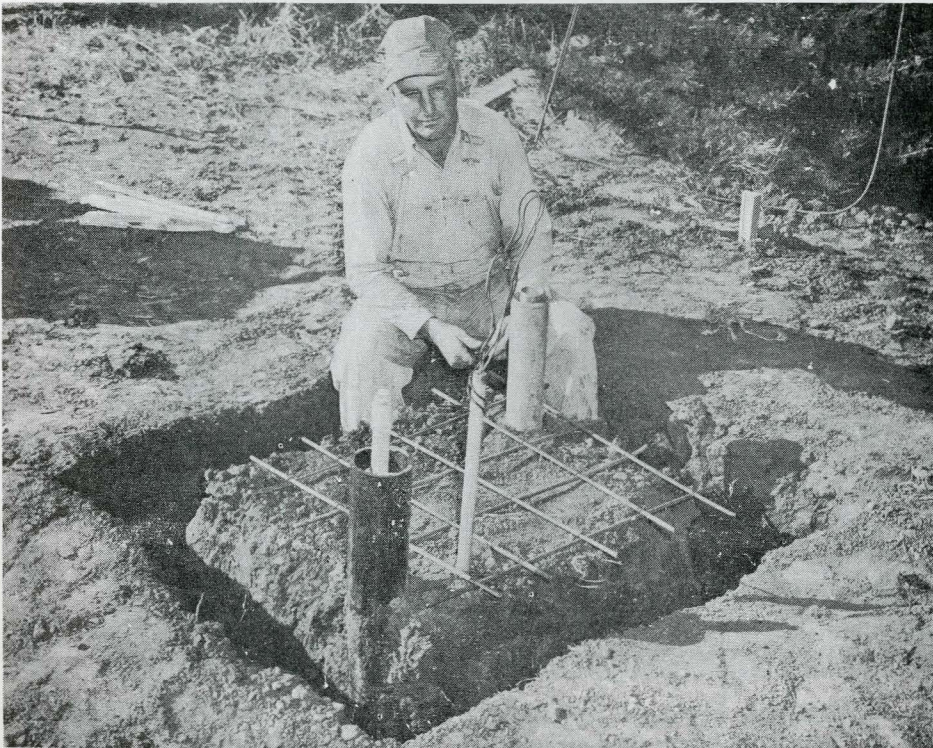

Figure No. 7 Foundation trench has been completed. Note reinforcing placed for platform.
10. After forms have been set, place reinforcing and floor drain. A 3-foot length of 3/8-inch reinforcing rod is used in center of each corner post hole. Continuous reinforcing is also placed near the bottom of the foundation wall. Platform reinforcing is placed as shown in Figure No. 7.